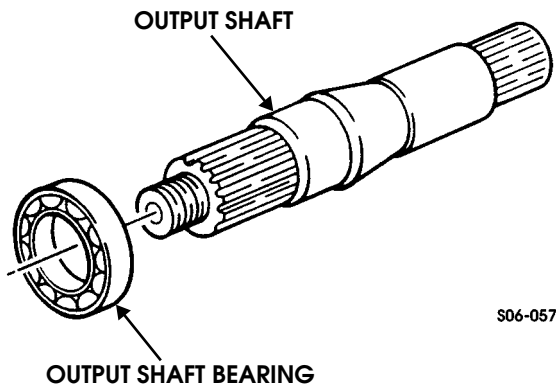

Figure 9-98: Bearing Installation
65. Using press, install output shaft bearings on output shafts (Figure 9-98).